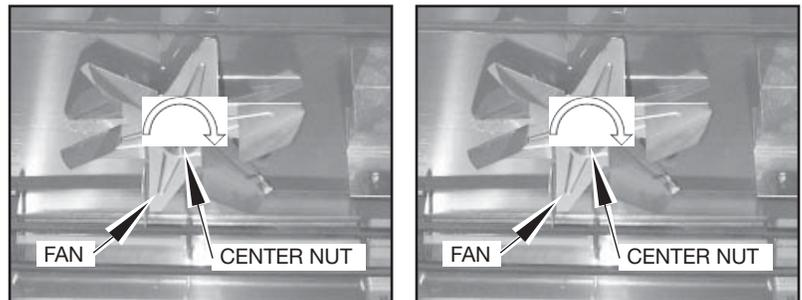

Figure 37
4. Remove both fan blades. Unscrew the center nut on each fan blade (Figure 37). These nuts are left-hand thread.